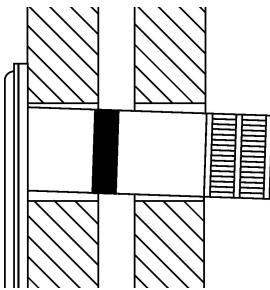

Fig. 6 (side view). Angle of drop shown exaggerated.
4. The flue should run horizontally, or with a slight drop to the terminal, in order to prevent rain entry (Fig. 6).